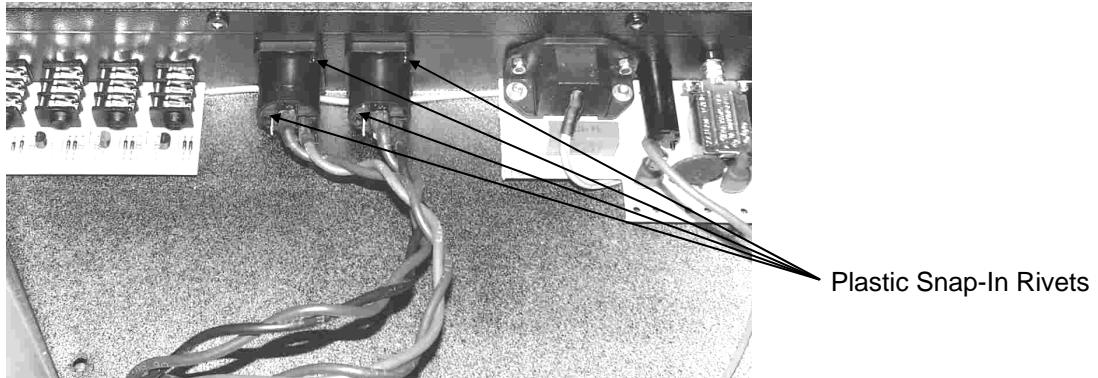

fig.9
- 4) Remove the plastic snap-in rivets from the rear Speakon® connectors (see fig.9)